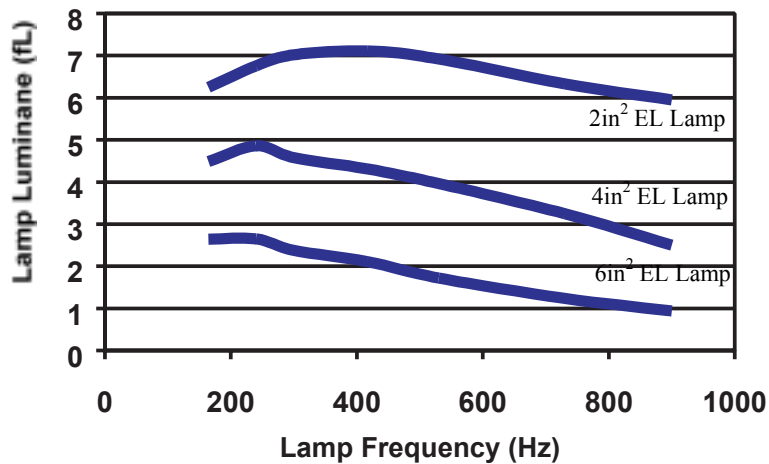

Figure 2: Typical Lamp Luminance vs. Lamp Frequency
The selection of the CLF value can also affect the brightness of the EL lamp because of its control of the lamp frequency (LF). Although input voltage and lamp size can change EL lamp frequency as well, LF mainly depends on the CLF value selected or the frequency of the input clock signal to CLF. The luminance of various sizes of Durel 3 Blue-green EL lamp driven by a D355B at $V^+ = 3.0V$ using the same inductor value is shown in Figure 2 with respect to lamp frequency.